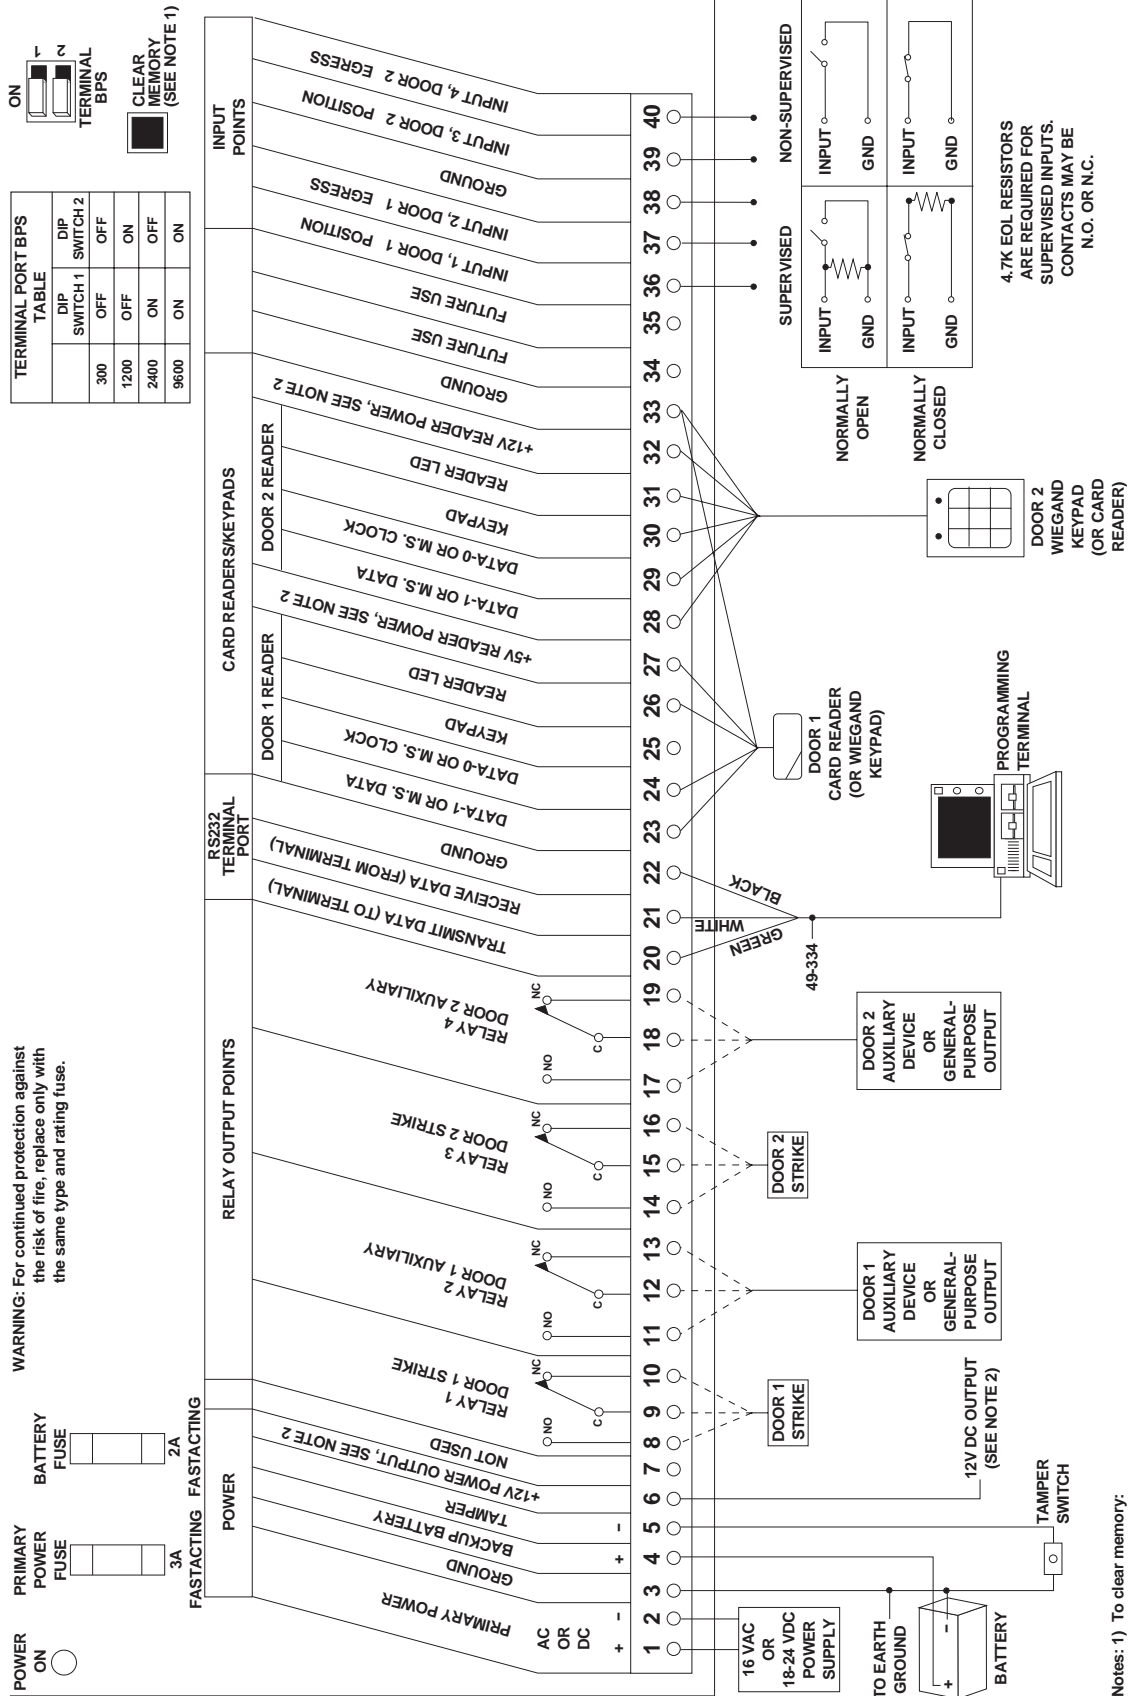

Figure 5: 351 Wiring Diagram
Wire your APM and peripherals by connecting all devices as shown in Figure 5, *351 Wiring Diagram*.
1. Wire your APM and peripherals as shown in Figure 5, *351 Wiring Diagram*.
Complete the connections shown in Table 3. Refer to Figure 5, *351 Wiring Diagram*, for the location of these connections. Specific wiring for the strike(s) depends on the type of lock used. Follow the manufacturer's instructions for the lock used.
Each APM requires an RS-232 terminal or a computer with terminal emulation software for programming and displaying events. Setting up the terminal includes wiring the terminal to your APM and setting two DIP switches on the APM. The DIP switches are located near the upper right of the inside of your APM (see Figure 5, *351 Wiring Diagram*) and indicate the baud rate for the terminal.
Connect the cable (ITI P/N 49-334) to the terminal block and to your APM terminals 20 (green wire), 21 (white wire), and 22 (black wire). Refer to Figure 5, *351 Wiring Diagram*, for the location of these connections.
Each door must have a Wiegand or magnetic-stripe format reader and/or a keypad. When completing reader or keypad connections, refer to Figure 5, *351 Wiring Diagram*.
Complete the connections in Table 6. Refer to Figure 5, *351 Wiring Diagram*, for the locations of these connections.